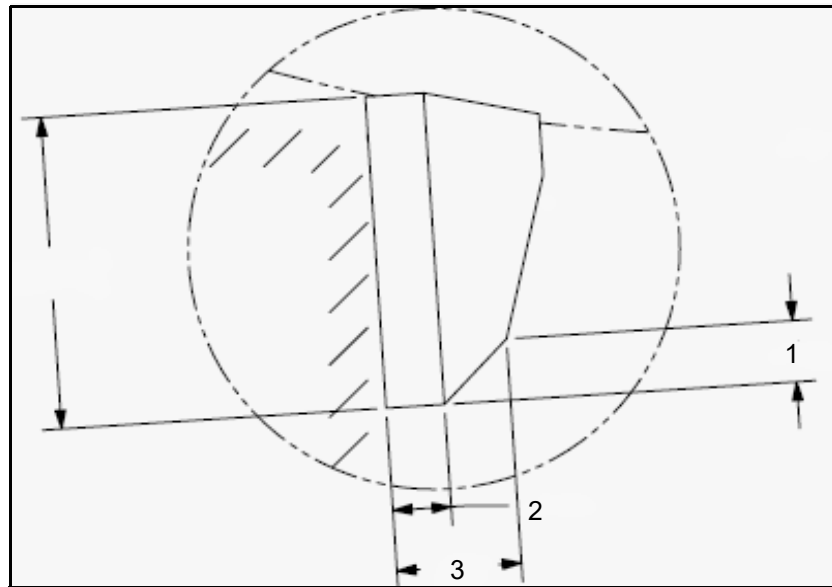

Figure 8.
17. To allocate the fitment and installation of the existing air tanks to the new coach structure channels, the existing sway bar brackets will need to be cut using the measurements shown in Figure 8.
Item	Figure 8 Description